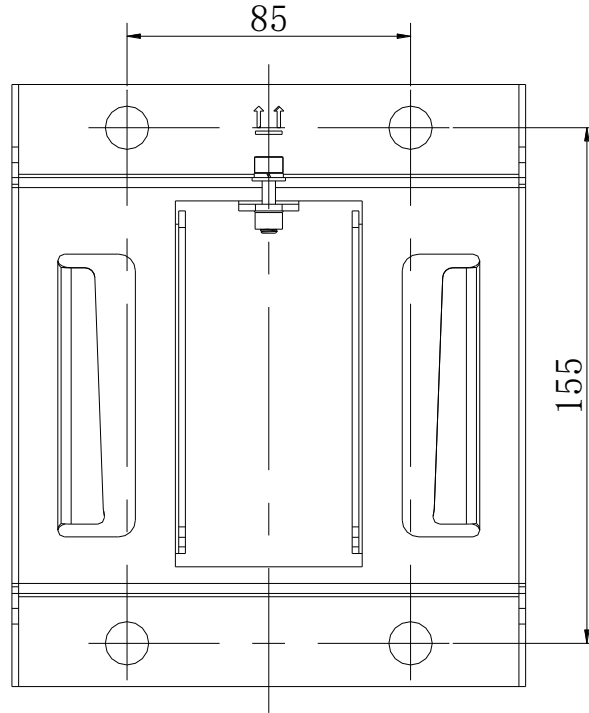

Figure 2.5.5 Wall-mounting Drilling Dimension Diagram
Step 2: take out the mounting bracket 2(RRH-3522-5832), use percussion drill to drill 4 holes of $\Phi 14$ with 65-75 mm depth, as shown in Figure 2.5.5.